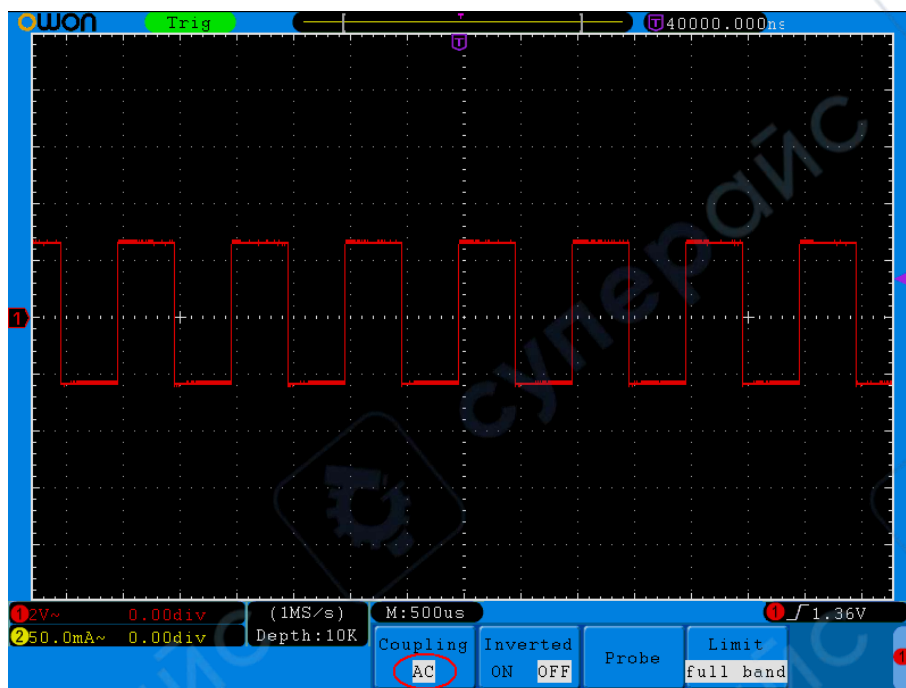

Figure 5-2 AC Coupling Oscillogram
- (1) Press the **CH1 MENU** button to show the CH1 SETUP menu.
- (2) Press the **H1** button, the Coupling menu will display at the screen.
- (3) Press the **F1** button to select the Coupling item as "**DC**". Both DC and AC components of the signal are passed.
- (4) Then, press **F2** button to select the Coupling item as "**AC**". The direct current component of the signal is blocked. The waveforms are shown as *Figure 5-2*.